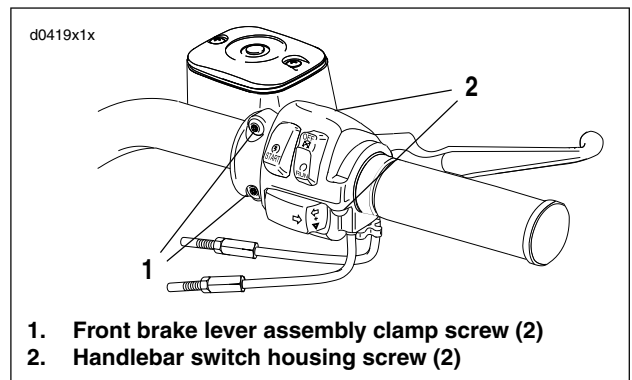

Figure 7-3. Handlebar Lever and Control Mounting Screws (Right Side Shown)
1. See Figure 7-3. Loosen (but do not remove) brake and clutch lever assembly clamp screws (1) and handlebar switch housing screws (2).